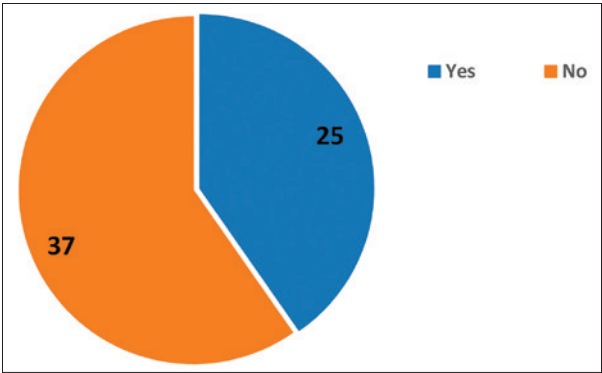

Figure 3: Pie Chart of [Q41], “Does passing JESD78 testing guarantee latch-up robustness in the field?”respondents
- It is evident that passing JESD78 testing is insufficient to guarantee latch-up robustness in the field, as shown in Figure 3, and seems to be more related to the type of stress rather than the levels.